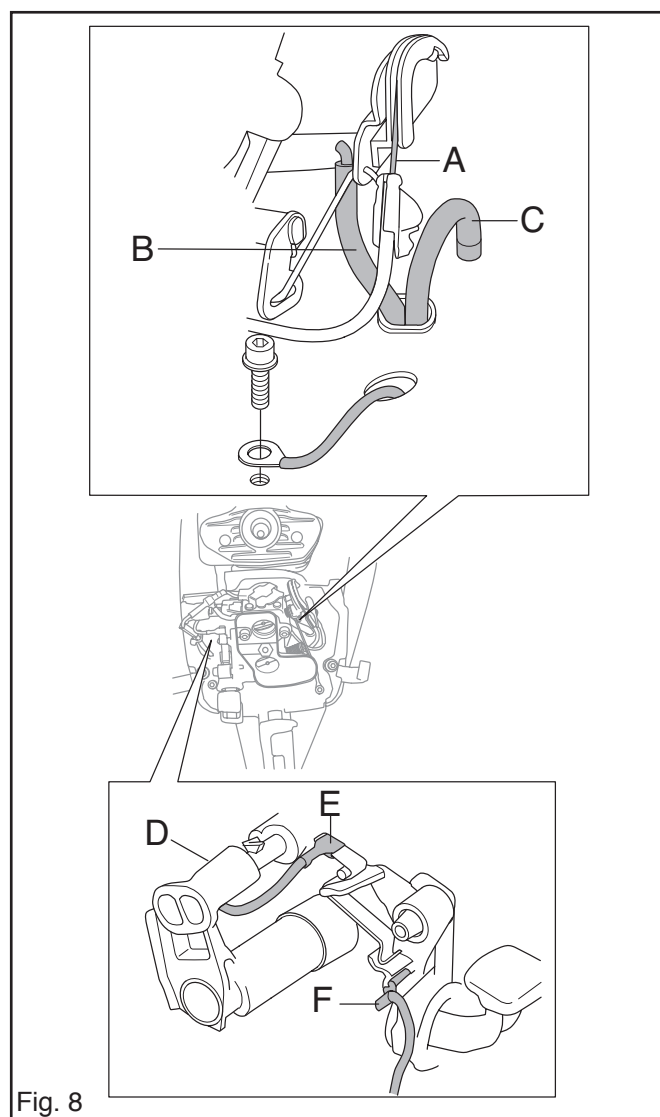

Fig. 8
2. Remove the carburettor control (D) by pulling. Disconnect switch wires (E and F). See fig. 8.
3. Unhook the throttle cable (A). See fig. 8.
4. Remove the fuel pipe (B).